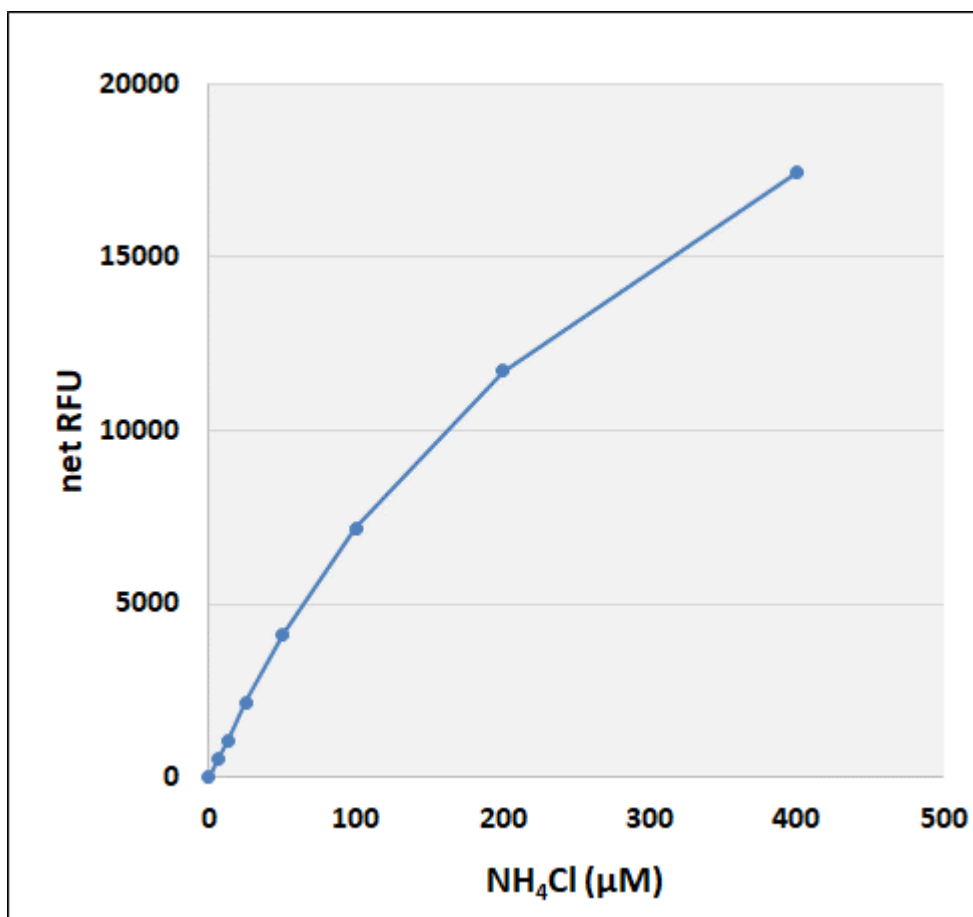

Figure 1: Ammonium Chloride Standard Curve.
Cell Biolabs' Ammonia Assay Kit measures ammonia levels within urine, cells, or tissue lysates. Samples are compared to a known concentration of ammonium chloride standard within a 96-well microtiter plate format. Samples and standards react with a fluorescent sensor to produce a fluorescent product. After 15-30 minutes, the plate is read with a standard 96-well fluorometric microplate reader at an excitation wavelength of 360 nm and an emission of 415 nm (Figure 1). Higher fluorescent values correlate with high ammonia concentrations. Sample ammonia concentrations are determined by comparison with the known ammonium chloride standards. The kit has a sensitivity of 6.25 μM ammonia.
3. Graph the standard curve (see Figure 1).